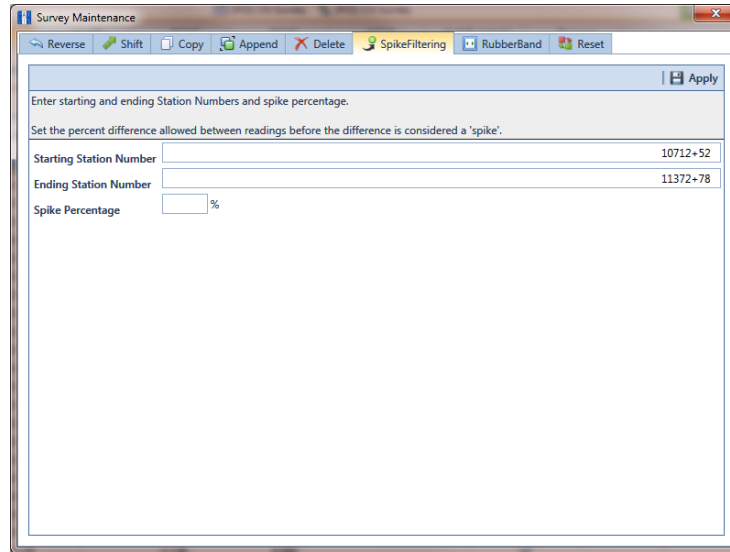

Figure 7-75. Spike Filtering
- 5 Click **Survey Maintenance** to open the *Survey Maintenance* dialog box. Then click **SpikeFiltering** (Figure 7-75, page 288).